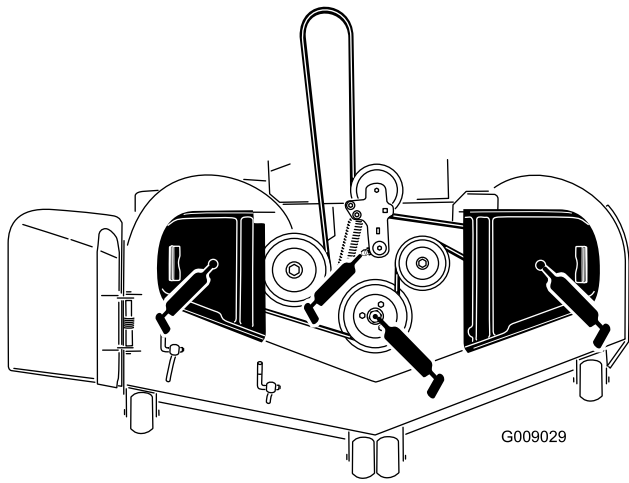

Figure 39
3. Grease the mower deck idler pulley pivot until grease come out the bottom (Figure 39).
4. Grease the 3 spindle bearings until grease comes out the lower seals (Figure 39).
- Grease the drive belt idler arm (Figure 39).